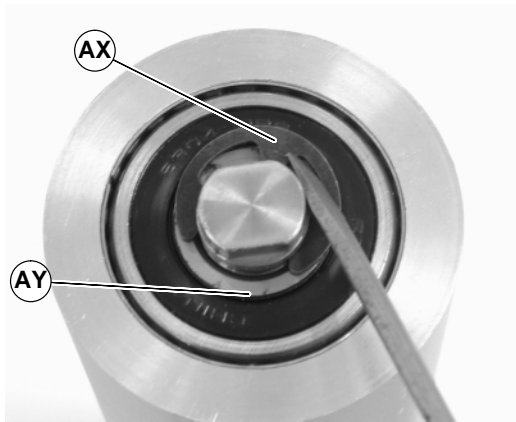

Figure 37
5. Remove the pulley shaft assembly: remove the clip ring (AX of Figure 37) and washer (AY) from one side of the pulley assembly.